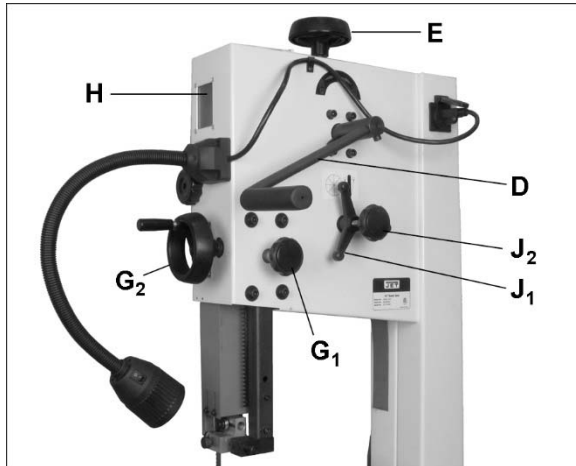

Figure 7-5
4. Raise quick tension lever (see D, Figure 7-5) to release position. If needed, rotate tension handwheel (E, Figure 7-5) for further detensioning.
Refer to Figures 7-5 and 7-6.
1. Lower tension lever (D, Figure 7-5) to tension position.
2. Set proper blade tension by rotating handwheel (E, Figure 7-5), clockwise to tighten, counterclockwise to loosen.
Refer to Figures 7-5 and 7-7.
4. Loosen guide post locking knob (G_1 , Figure 7-5) and use handwheel (G_2) to lower guide post until you can see blade through tracking window (H).
7. If blade tends to move toward left or right edge of wheel, loosen locking handle (J_1 , Figure 7-5) counterclockwise, and rotate tracking knob (J_2) with your right hand while continuing to rotate wheel with your left. **IMPORTANT:** This adjustment is sensitive; perform in small increments and give blade time to react to changes.
2. Loosen lock knob (G₁, Figure 7-5) and raise or lower guide post using handwheel (G₂, Figure 7-5).